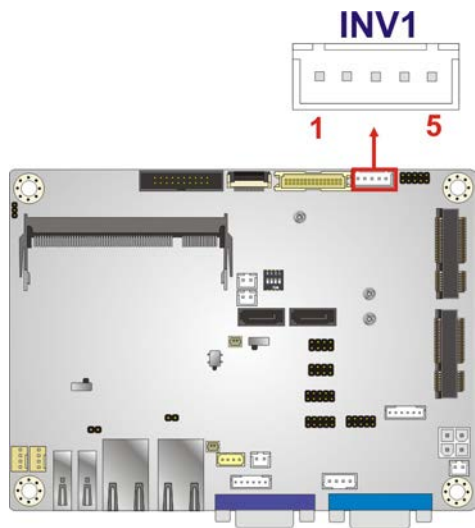

Figure 3-12: Backlight Inverter Connector Location
- CN Location:** See **Figure 3-12**